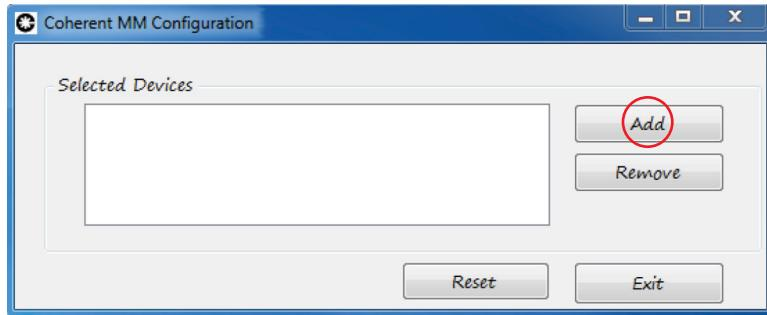

Figure VI-4. Add Button
7. Click Add, shown in Figure VI-4.